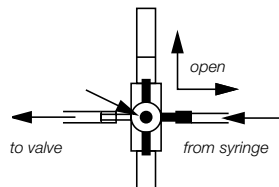

fig. 9
- Turn the three-way faucet as shown in fig. 9 and fill the manometer to at least 5 cmH₂O.
- Turn the three-way faucet as shown in fig. 9 and fill the manometer to 10 cmH₂O above the expected opening pressure. (Example: For testing a GAV 2.0 with an opening pressure setting of 5 cmH₂O horizontal and 25 cmH₂O vertical, the manometer is filled to 15 cmH₂O with the shunt in a horizontal position and to 40 cmH₂O with the shunt in a vertical position.)